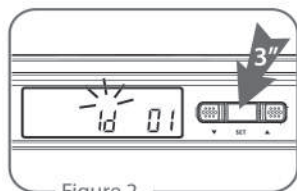

Figure 2
- (1) Press "Set" button ⑤ for 3 seconds, LCD Panel will start flashing.
- (2) Press "Set" twice to enter "ID Code" setting window. (Figure 2)
- (3) Press "▲Up" ③ or "▼Down" ④" button to select a distinct ID code from "id 0" to "id 99"
- (4) After setting, press "Set" again to save the settings.